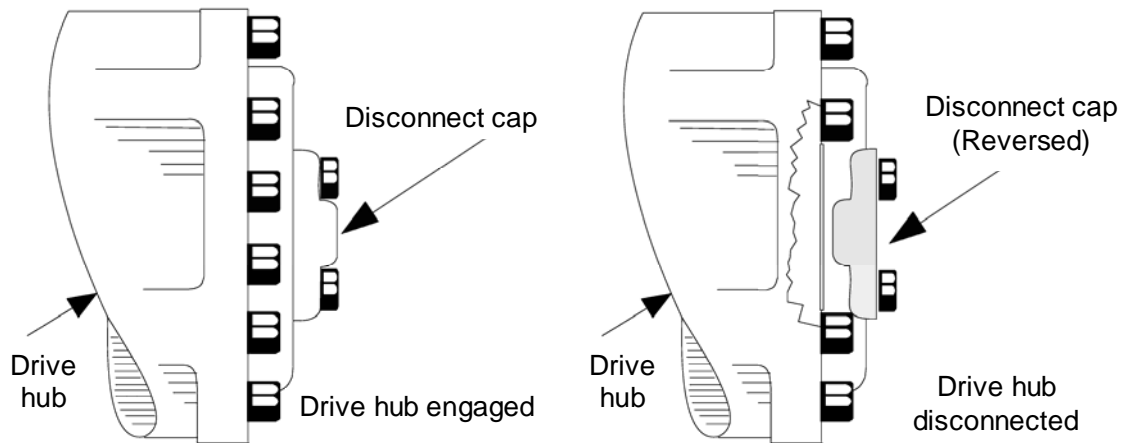

Figure 5-5 Disengage the Drive Hub
- 2) Disconnect drive hubs by inverting disconnect cap. (See Figure 5-5.) After towing the machine, complete the following:
- 3) Reconnect drive hubs by inverting disconnect cap. (See Figure 5-5.)